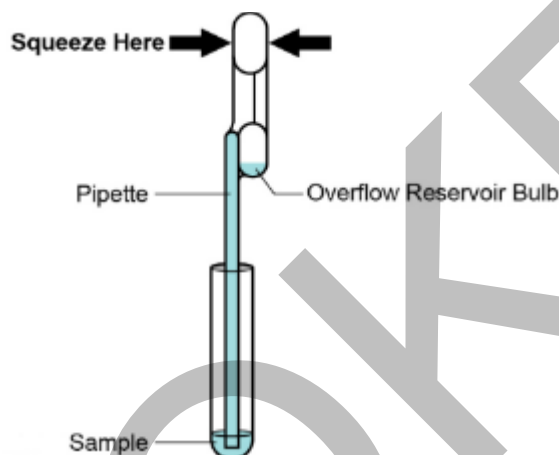

Figure 10. Transfer Pipette
8. Squeeze the top bulb of the transfer pipette completely then place the pipette tip in the specimen transport tube or the external control tube (see Figure 10).
9. Release the top bulb of the pipette to fill the pipette before removing from the tube. After filling pipette, excess sample can be seen in the overflow reservoir bulb of the pipette (see Figure 10). Check that the pipette does not contain bubbles.